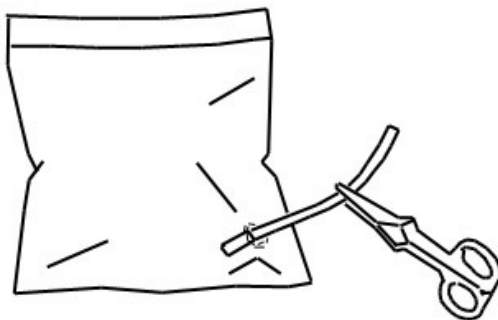

Figure 1: 1 L Gas Bag
- Use a pencil or similar round, sharp object to poke a hole through the plastic bag in a position similar to that shown in Figure 1.